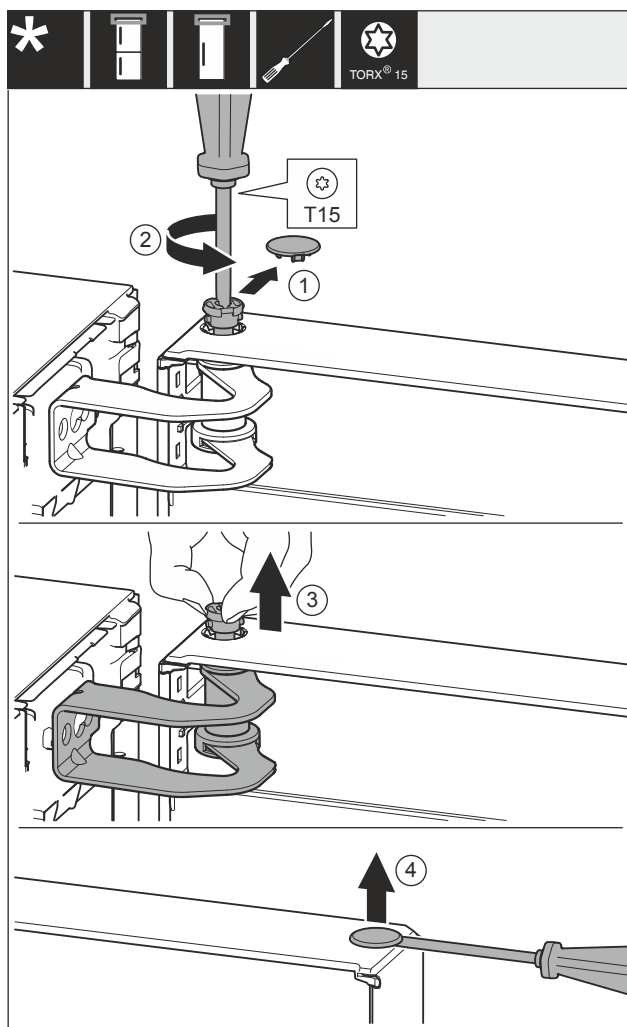

Fig. 10
- Carefully remove the cover Fig. 10 (1).
- Use screwdriver to loosen the bolts Fig. 10 (2) a little.
- Pull out the bolt Fig. 10 (3) with your fingers.
- Carefully lift and remove the cover Fig. 10 (4) with a screwdriver.